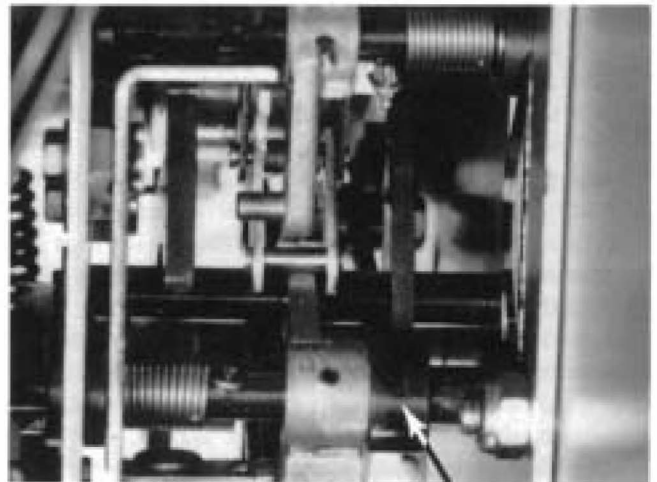
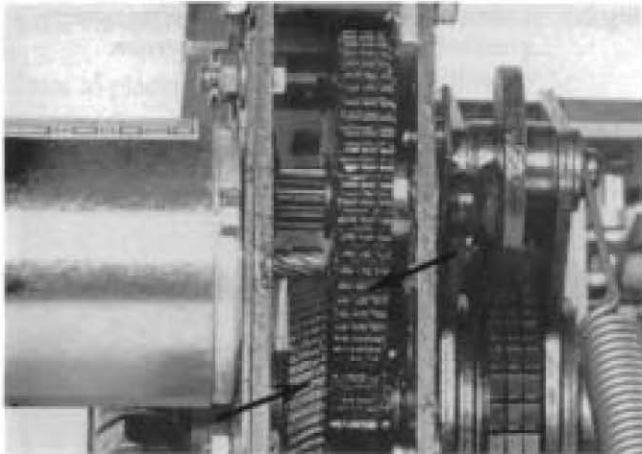

Figure 8: Lubrication — Close and Trip Latches
Figure 9: Lubrication — Motor Gears
Step 3. Lubricate the close and trip latch surfaces (figure 8) and mechanism charging gears (figure 9) using molybdenum disulfide grease.